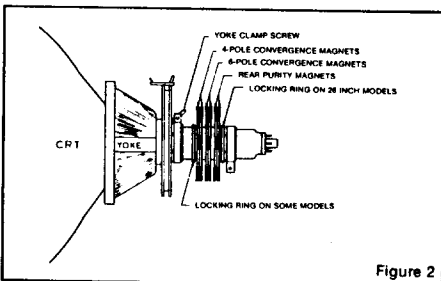

Figure 2
Loosen yoke retaining clamp (figure 2) Remove adhesive material fixing wedges to CRT. Remove wedges completely and clean off dried adhesive from picture tube and wedges.
**NOTE:** Static convergence is achieved by four magnets located on the neck, nearest the base of the picture tube, Fig. 2. The middle pair of magnetic rings are adjusted to converge the blue and red crosshatch lines. The rear pair of convergence rings (closest to the base of the picture tube) are adjusted to converge the magenta (blue/red) to the green crosshatch lines. Dynamic convergence is achieved by tilting the deflection yoke up-down and left-right.